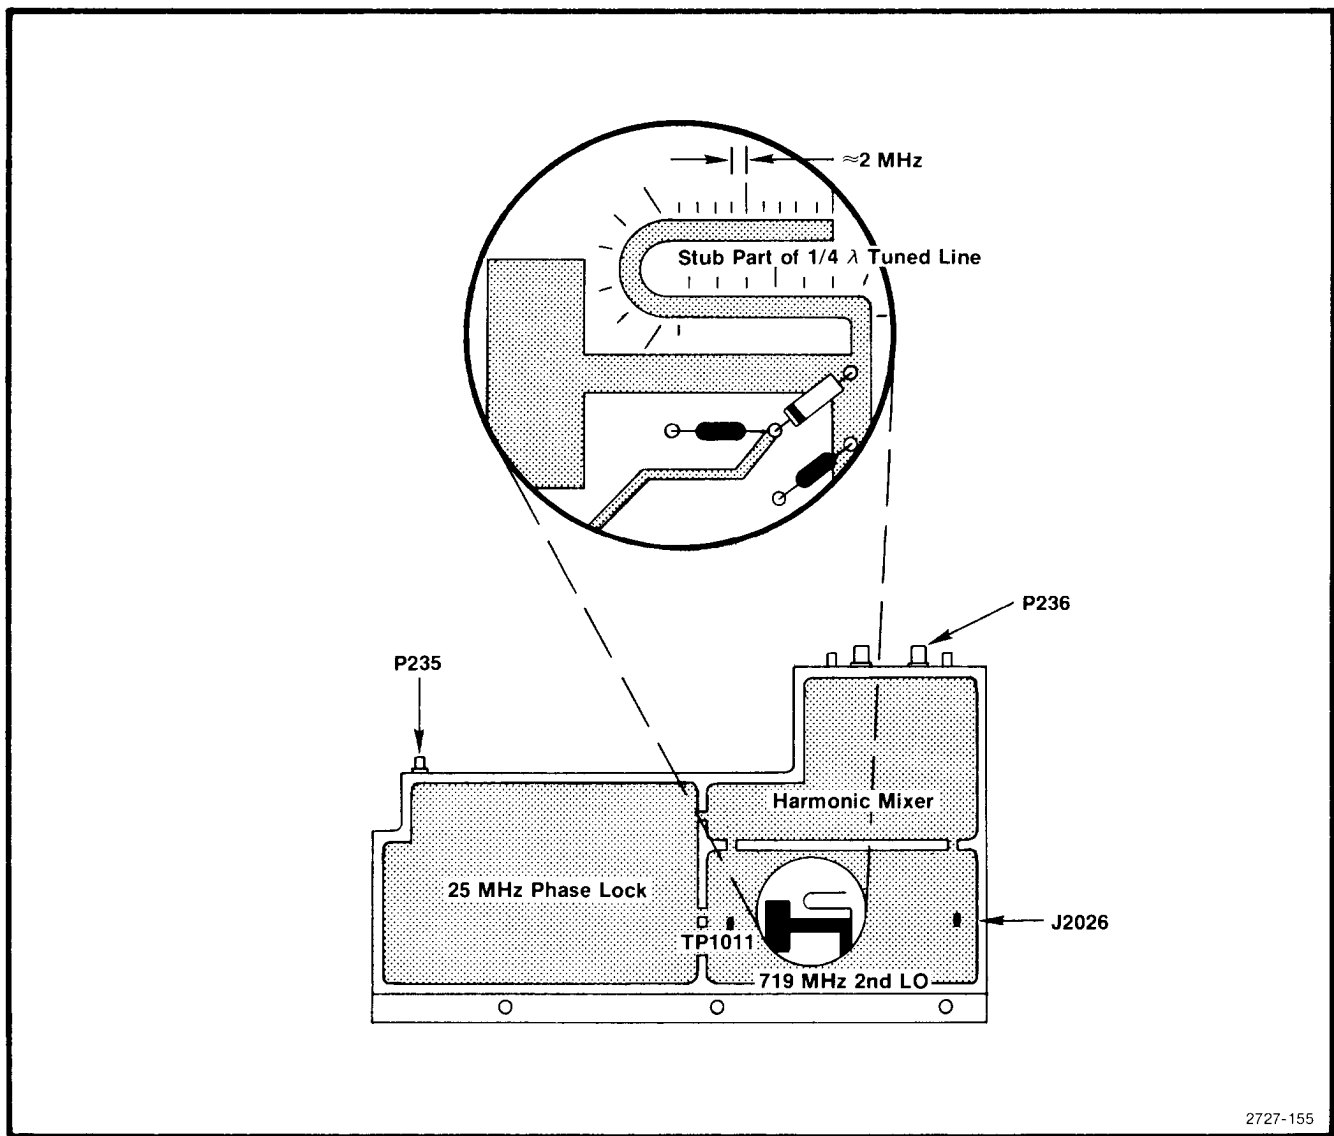

Fig. 4-12. LO section of 829 MHz converter showing test points and connectors.
b. The 2nd LO range is from 714.5 MHz to 723.5 MHz (with the cover off). 719 MHz is the optimum center frequency. Frequency of the oscillator is controlled by the Tune Volts from the 25 MHz Phaselock circuit (located at TP1011) which varies from +5 V (low end) to +11.9 V (high end) with +6.75 to +7.5 V as the limits for operation at 719 MHz. Set the digital voltmeter to measure 12 V then connect it between TP1011 (Fig. 4-12) and ground.
c. Disconnect the 100 MHz reference from the 3rd Converter by unplugging P235 (Fig. 4-12). The oscillator should go to its upper limit and the voltmeter indicate about 11.9 V.
e. The 719 MHz oscillator frequency is a function of the length of the printed 1/4 wavelength transmission line. Minor adjustments to the oscillator frequency are made by shortening the U-shaped transmission line stub, off the main line. Graduation marks (see Fig. 4-12) along the side of the stub provide a guide to calculate frequency correction. Each minor mark from the end or cut across the stub, represents an approximate change of 2 MHz.